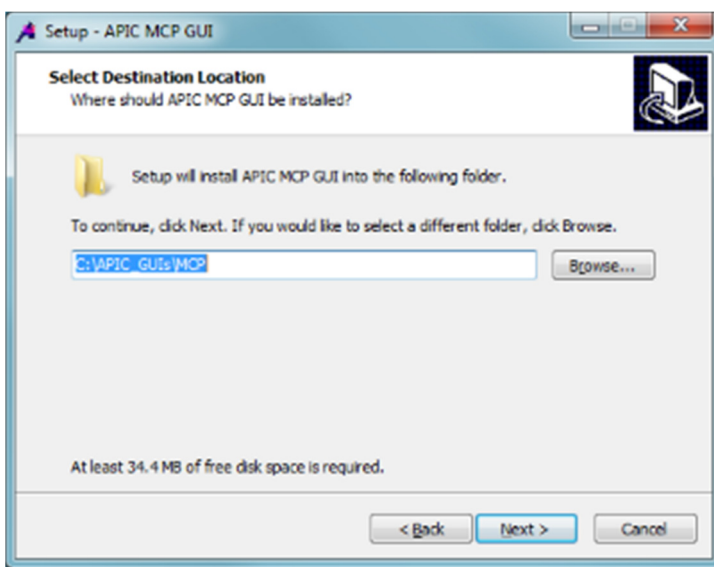

Figure 2 – Choose Installation directory for the APIC MCP GUI Installer
3. Choose the desired installation directory or continue with the default install directory (as illustrated in Figure 2). Click Next to continue.